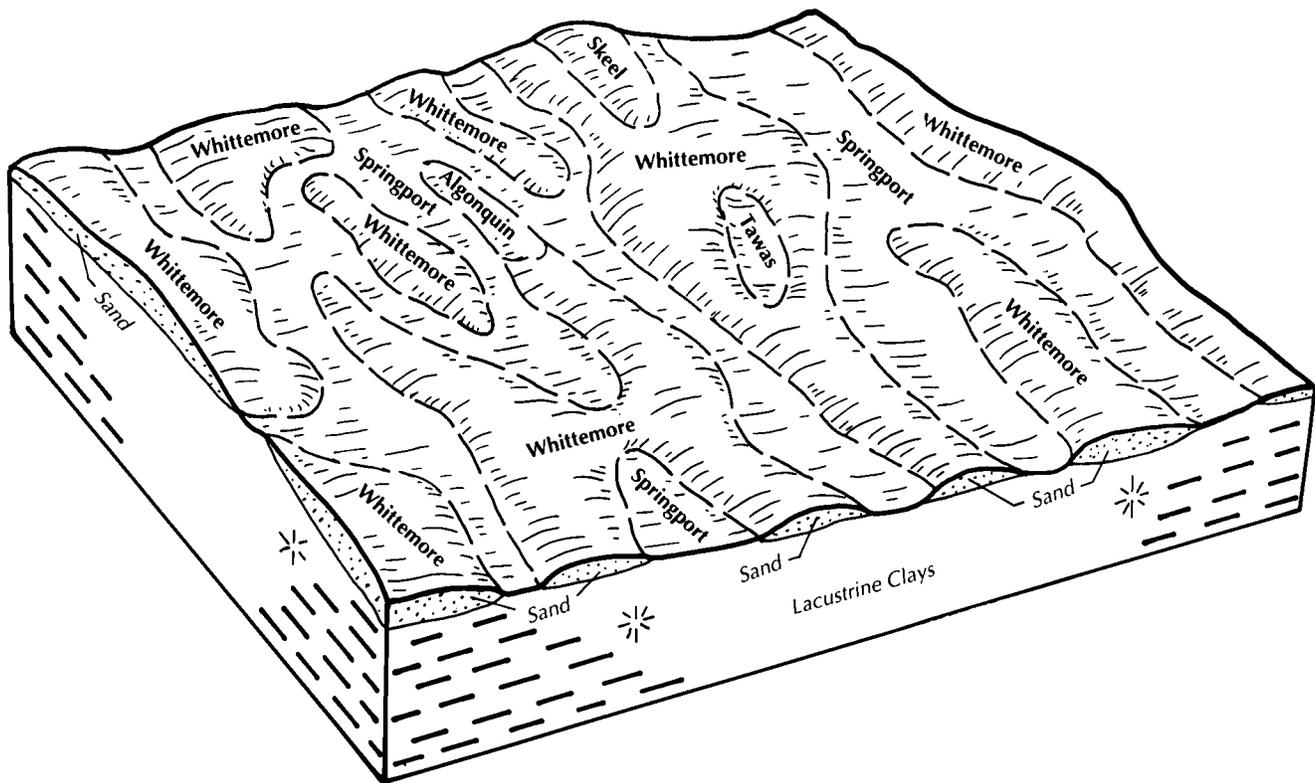

Figure 10.—Typical pattern of soils on the landscape in an area of Whittemore-Springport complex, 0 to 3 percent slopes.
*Landform:* Lake plains (fig. 10)